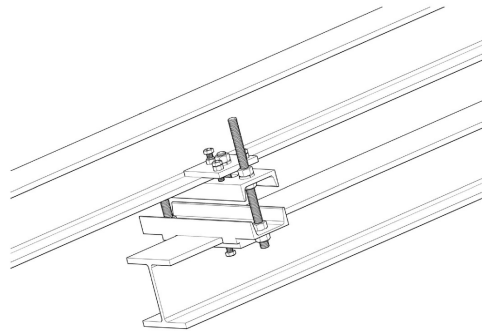

Figure 3
- Install the $\frac{3}{4}$ " threaded rods into the clamps on the assembly and the adjustable clamps on the supporting beam or truss as shown in figure 3. Adjust the position of the adjustable clamps as required to align the treaded rods with the clamps on the Mat Storage Assembly. Install nuts and washers on the threaded rods.